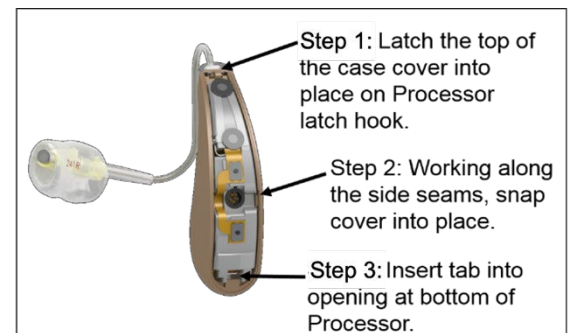

Figure 45: Processor cover replacement
5. Once the hearing aids are discovered, the First Name + Hearing Aid and R+L\* will display (Figure 45).